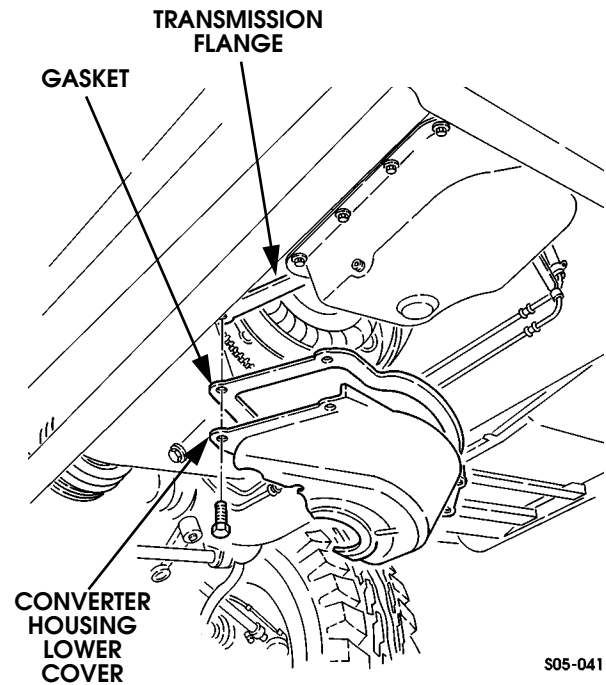

Figure 5-31: Converter Housing Lower Cover Mounting
3. Remove lower bolts and remove cover from transmission (Figure 5-31).